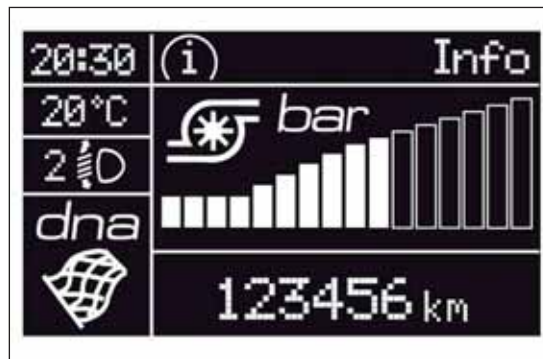

fig. 75
- ☐ **Dynamic mode** fig. 75 (display image available for versions/markets, where provided)